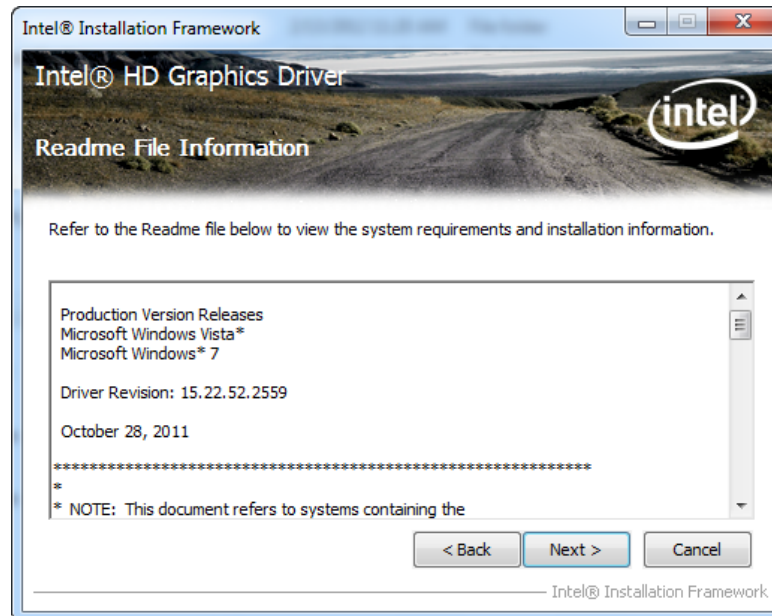

Figure 6-12: Graphics Driver Read Me File
Step 12: The **Read Me** file in **Figure 6-12** appears.